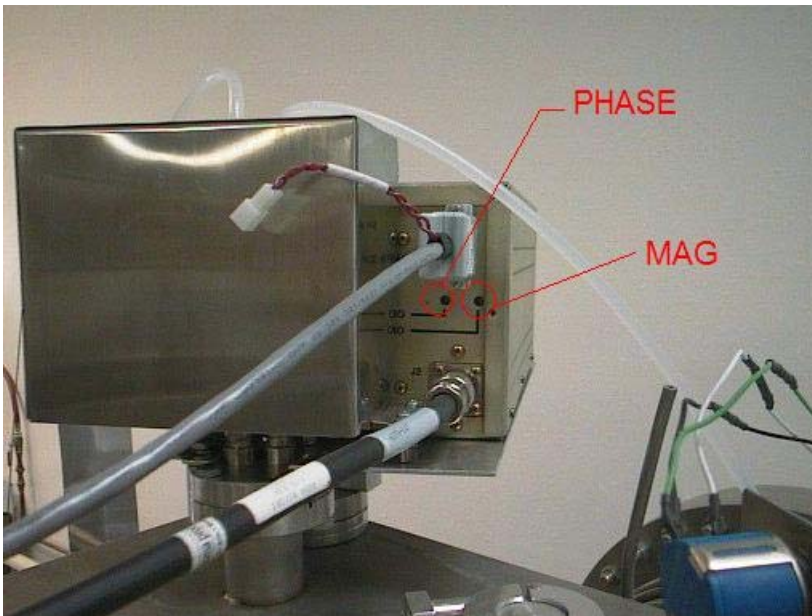

Figure C.1 PHASE and MAG zero potentiometers.
7. Examine Figure C.1 and identify the location of the PHASE and MAG zero potentiometers.